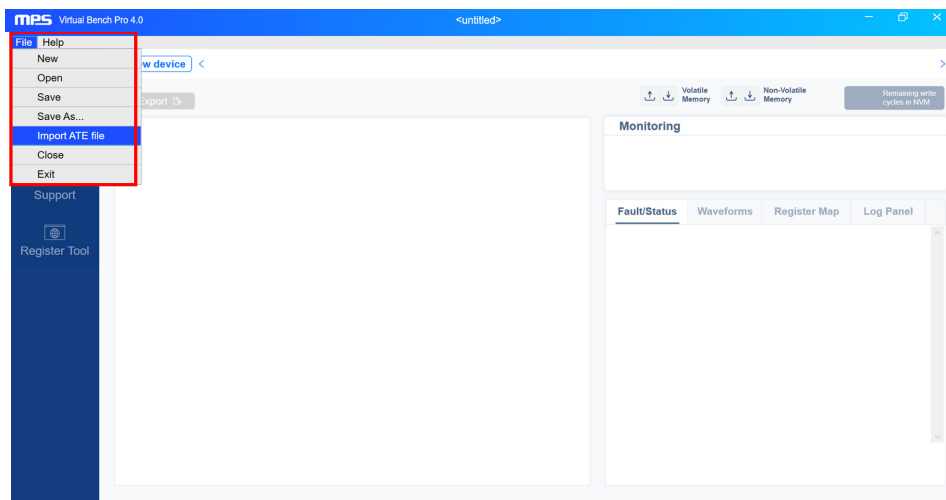

Figure 15: Import ATE File in Virtual Bench Pro 4.0
- h. The MPQ7210 can be configured through a configuration file. To do this, import the ATE file and repeat steps a–g above (see Figure 15).